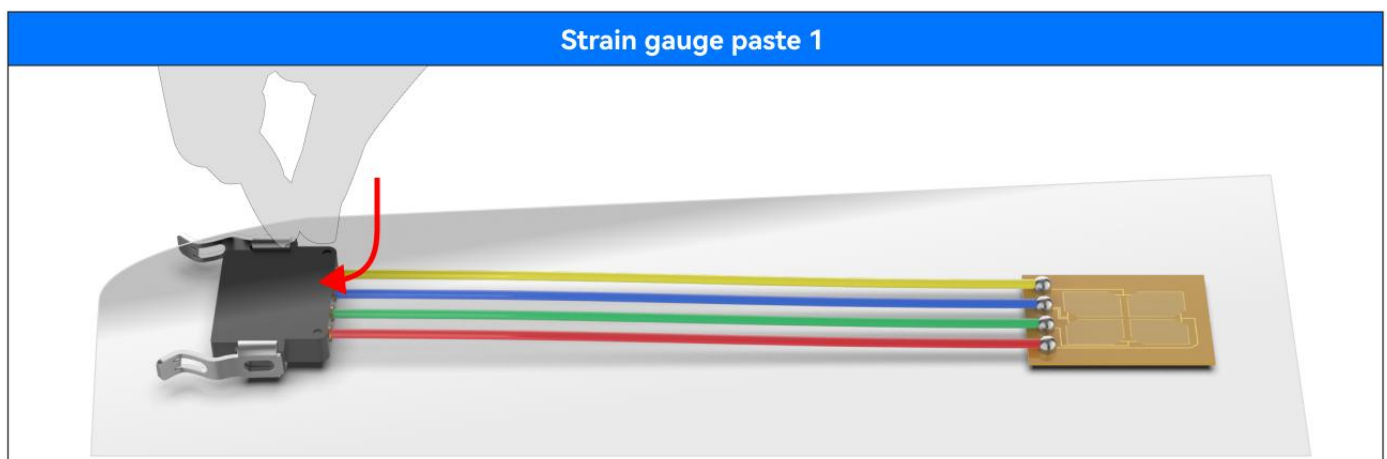

Figure 3.8
3. Cut a length of about 150mm Mylar tape. Carefully place the tape on top of the strain gauge and stick the gauge roughly in the center of the mylar tape, as shown in Figure 3.8. Attach the tape to the glass plate and center the strain gauge.